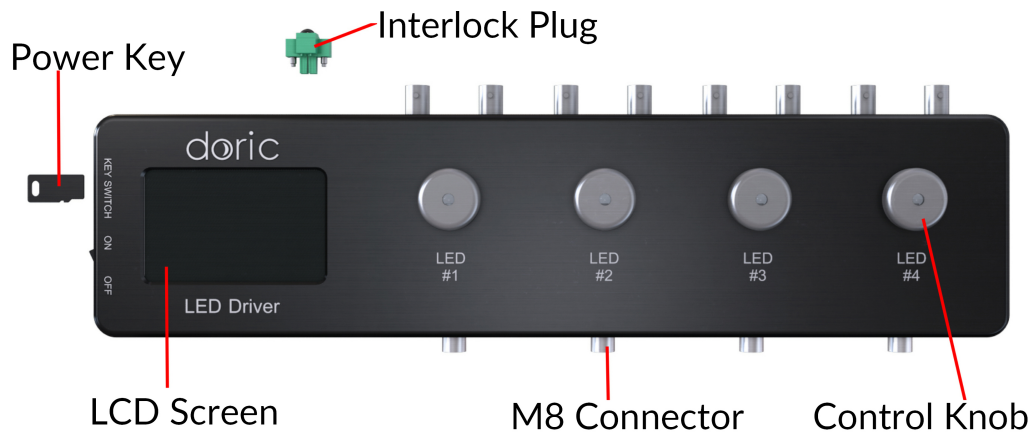

Figure 2.3: Front view of a 4-channel LED Driver
- The **LCD display** (Fig. 2.3) allows easy operation and monitoring. For each channel, the LCD displays the type of light source (LED), the operating mode, the center wavelength in nm and the current setting.